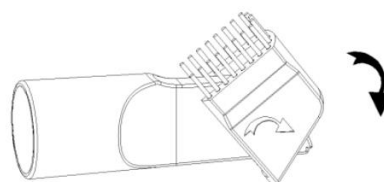

Fig.11
2. Fig.11 - open the other side with bristles to clean the sofa, curtains and ornaments.